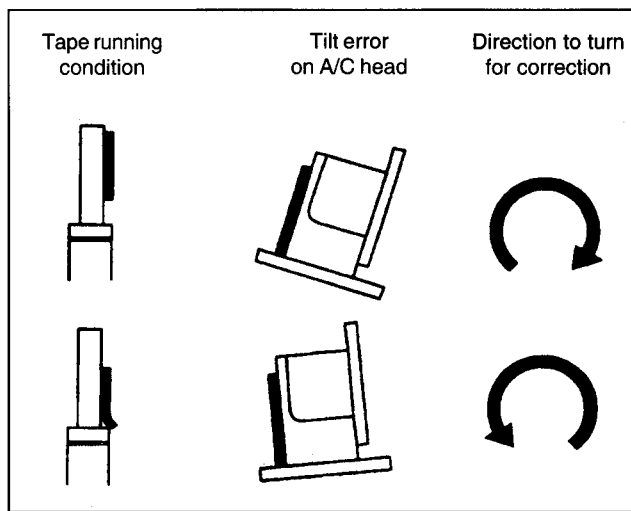

Fig. M14
- By means of the tilt angle adjusting screw, move the tape until the lower edge just touches the tape guide A1 (see fig. M14); the tape must not be distorted by the lower edge.